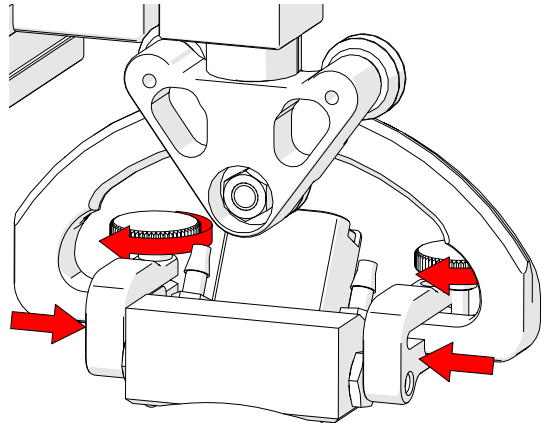

Fig. 52 - Clamp probe with arms and tighten knobs
6. Move the probe holder arms and insert the pivot buttons into the probe's pivot button holes while maintaining the probe's alignment relative to the yoke's pivot (Fig. 52).